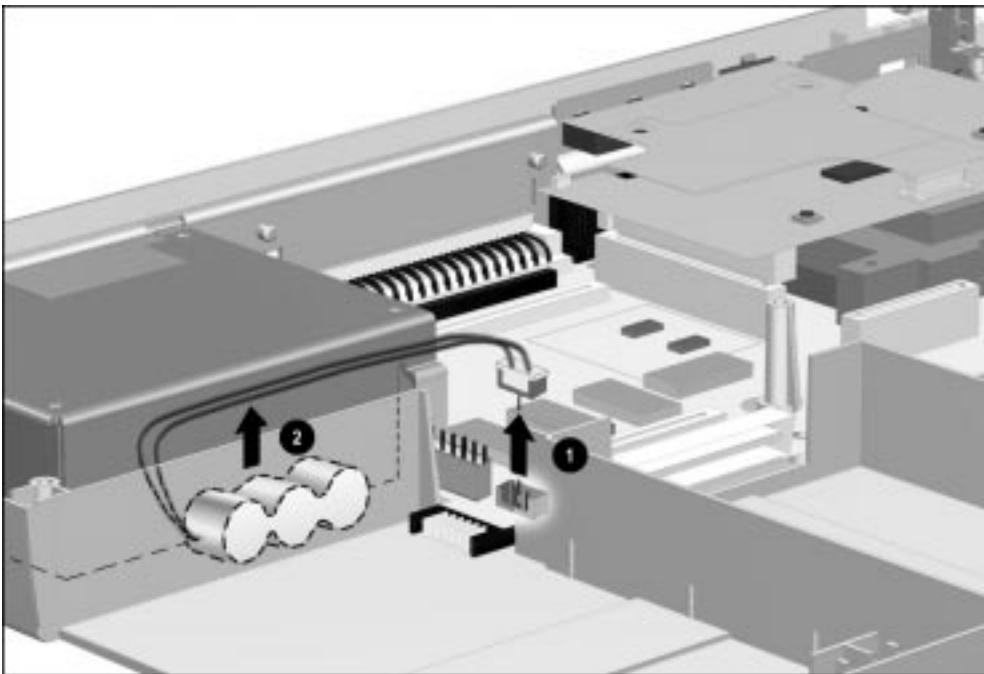

Figure 5-32. Removing the Auxiliary Battery
4. Disconnect the auxiliary battery cable ❶ (Figure 5-32).
5. Remove the auxiliary battery from the base enclosure ❷.